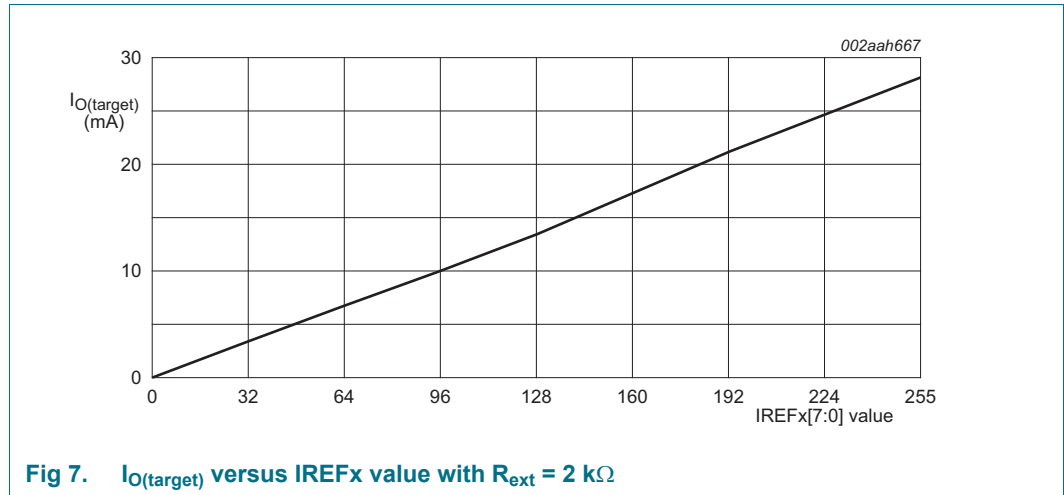

Fig 7. IO(target) versus IREFx value with Rext = 2 kΩ
**Example 2:** If  $R_{ext} = 2 \text{ k}\Omega$ ,  $I_{O\_LED\_MIN} = 112.5 \mu\text{A}$ ,  $I_{O\_LED\_MAX} = 28.687 \text{ mA}$  (as shown in Figure 7).